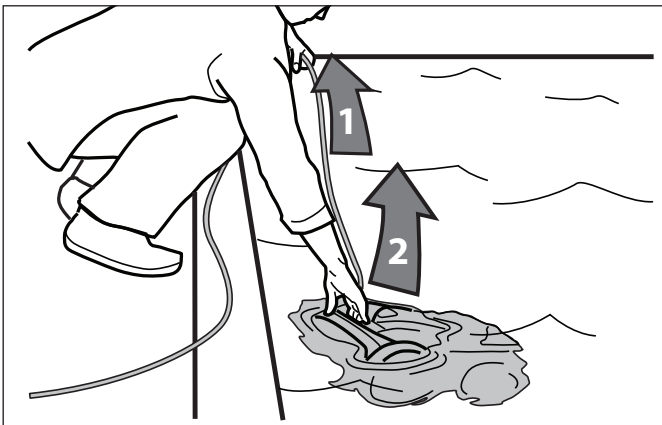

Figure 21. Remove Cleaner From Pool with Handle
2. When the cleaner is within arm's reach, use the handle to remove from the water (Figures 21, 22). Never lift the cleaner out of the pool by the floating cable.